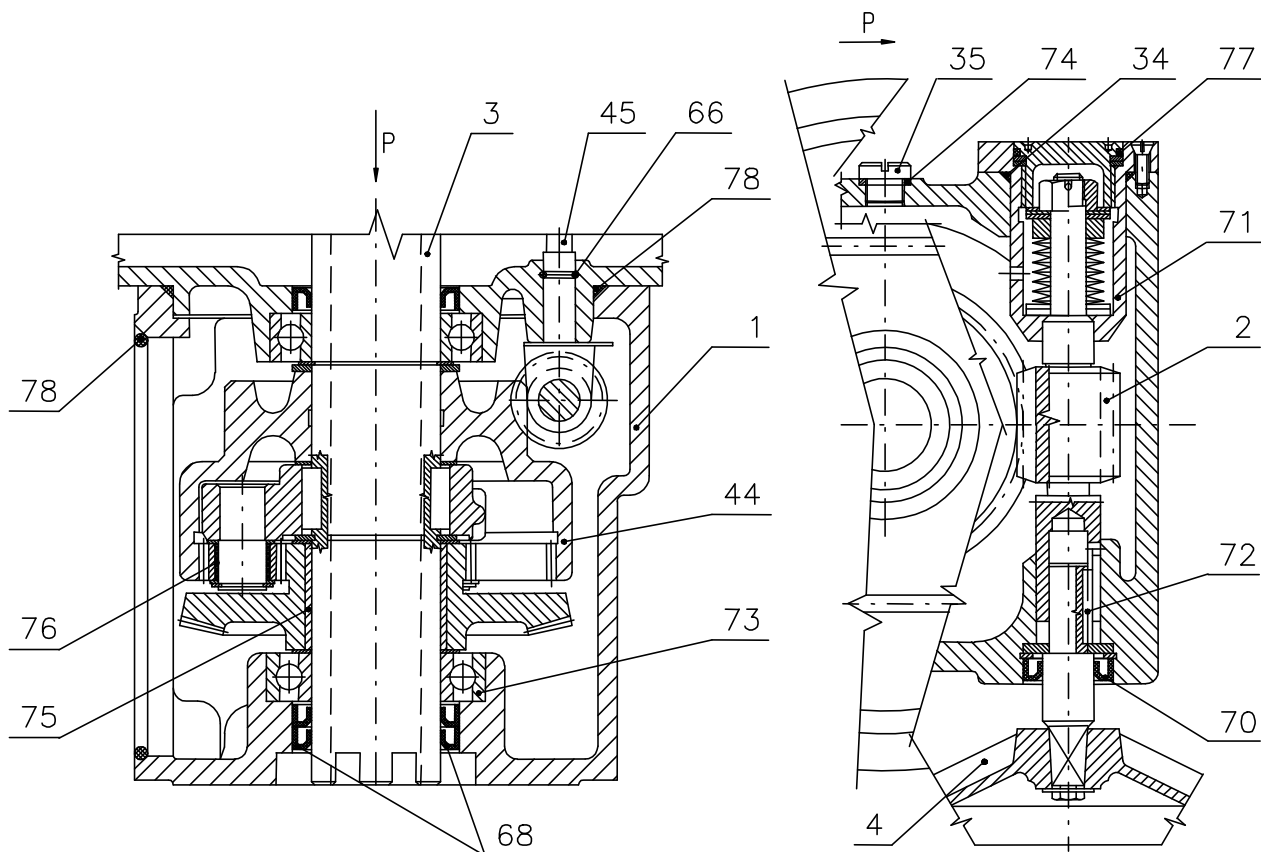
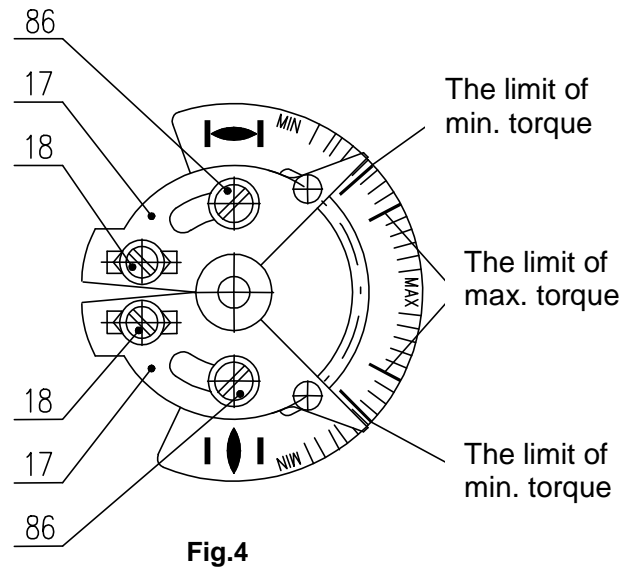

Fig.2
Fig.4
Modul M 3 – force transmission with manual control (Fig. 2)
Torque unit (Fig. 4 and 5) is composed of three functional sub-units:
- torque disk (Fig. 4)
Torque disk (Fig. 4) is assembled on torque shaft (45) discharged from power transmission (Fig.2). Steer angle of torque disk is proportional to torque moment of output shaft (3) of electric actuator. Its magnitude can be adjusted by segments (17) and by shifting of backstops (18). Achieved torque moment value is from torque disk transferred on torque unit (9) by means of torque lever (42).